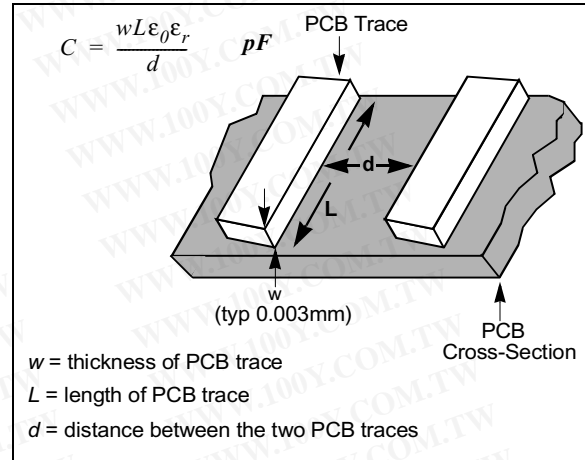

FIGURE 3-9: Capacitors can be built with PCB traces allowing for coupling of signals from one trace to another.
As shown in Figure 3-9, the value of the capacitance between two traces is primarily dependent on the distance (d) between the traces and the distance that the two traces are in parallel (L). From this model, the amount of current generated into the high impedance trace is equal to: